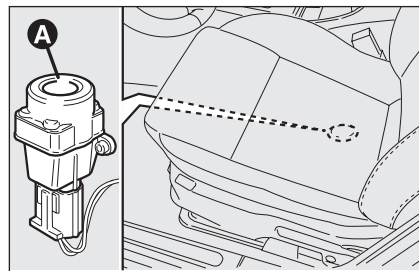

fig. 53
To reset the fuel cut-off switch, press button **A**-fig. 53.
- press button **A-fig. 53** to reset the fuel cut-off switch;